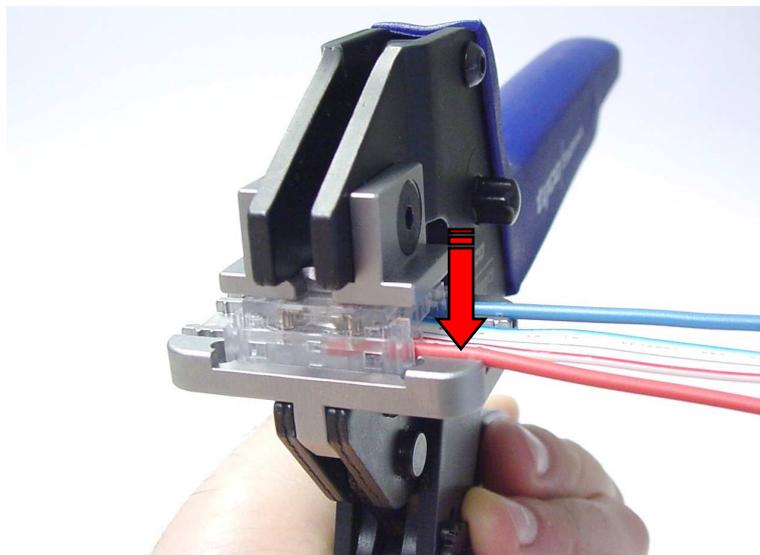

Figure 8
2. Then the wires are pressed by hand from above into the wire clamp (see figure 8).